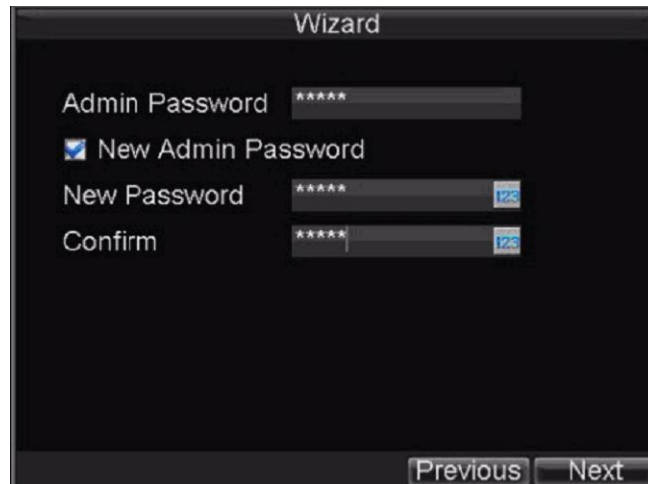

Figure 3. User Permission
1. Click the Next button on the Wizard window. This will take you to the **User Permission** window, shown in Figure 3.